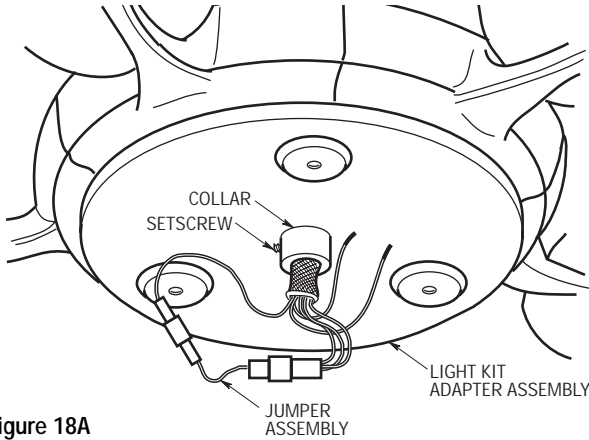

Figure 18A
- 31. Using the 5/64" hex wrench (supplied), loosen the setscrew in the collar on the light kit adapter assembly. Then pass the connectors and the wires from the motor shaft through the collar (Figure 18A). Screw the adapter assembly onto the motor shaft and then tighten the setscrew to secure the adapter assembly to the motor shaft. Connect the connectors from the motor shaft using the jumper assembly (supplied). Verify that the connectors are securely engaged.